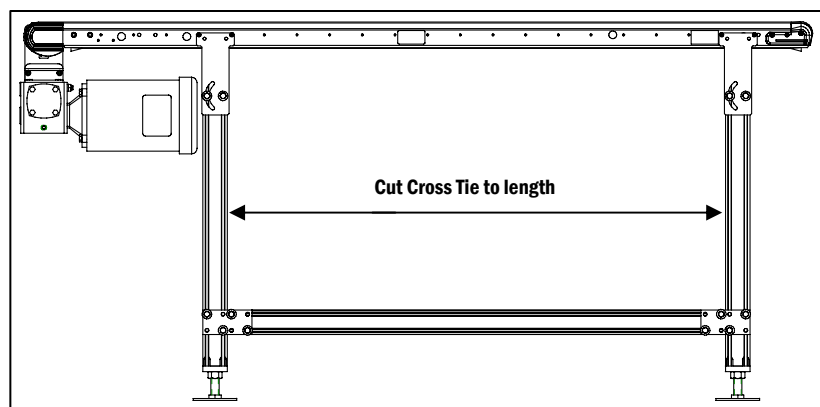

Figure 3
❷ Install the Cross Tie Extrusions
a. Measure the distance between the stands and cut the Cross Tie Extrusion to fit with a saw blade that is appropriate for Aluminum (**Figure 3**).